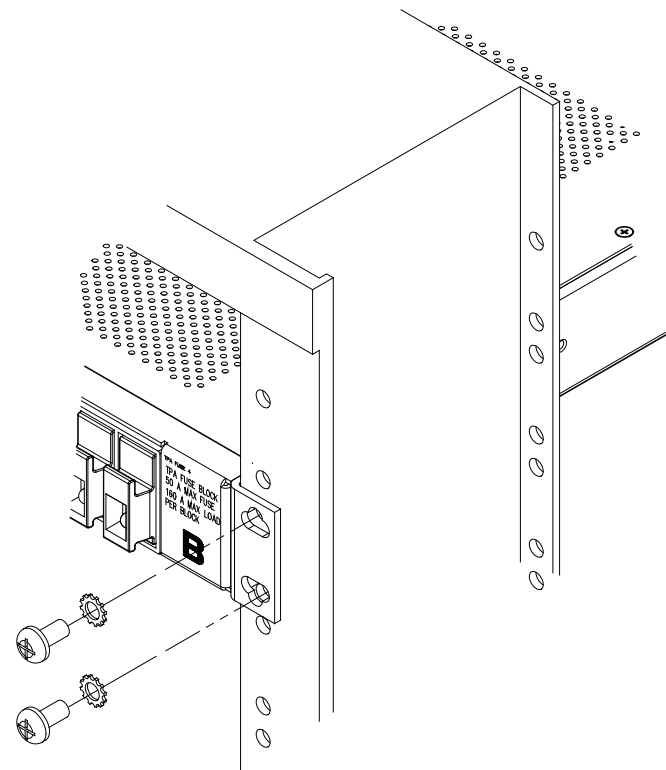

Figure 3 - Rack Mounting
2. Locate an unused rack position and mount the panel using four screws and lock washers provided, as shown in Figure 3. (Place the mounting panel as high as possible on the rack.)